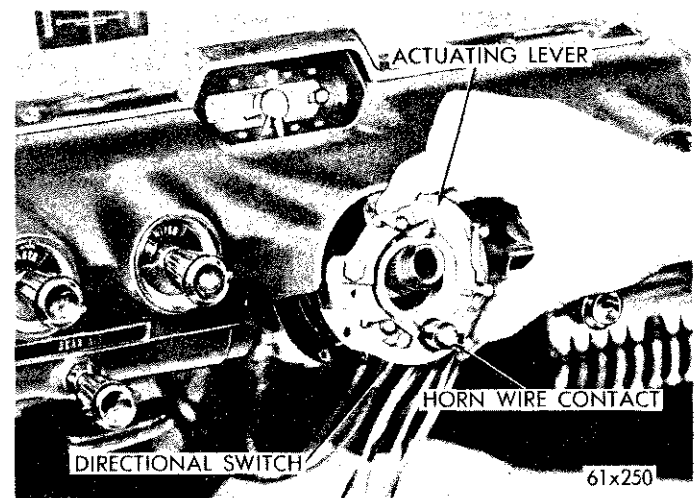

Fig. 18—Removing Directional Switch
(9) Remove the two screws and disconnect the switch wires at the connection and remove the directional switch and wires (Fig. 18).